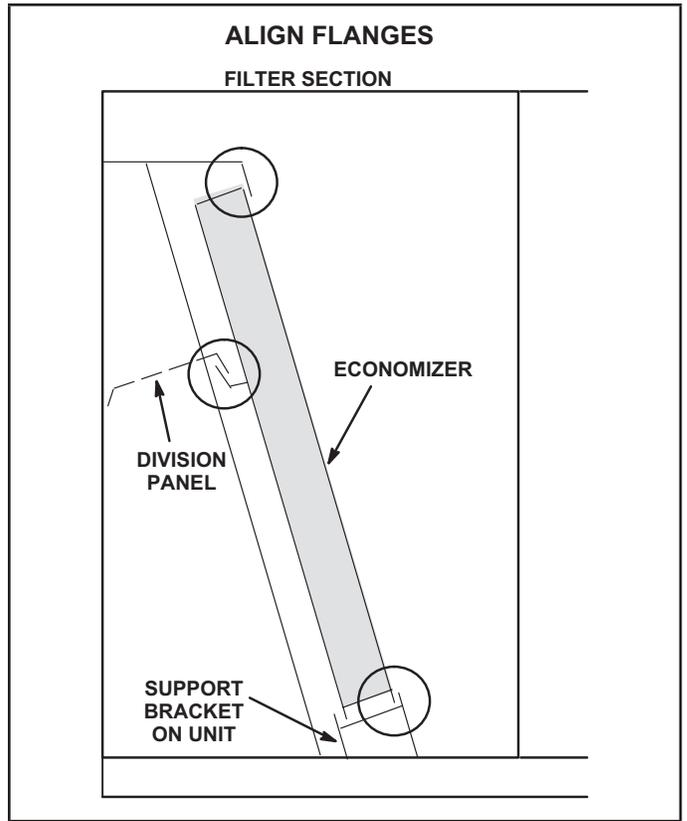

FIGURE 38
- 3 - Align bottom of economizer with economizer support bracket and slide economizer into unit. Make sure the flanges align as shown in FIGURE 38.